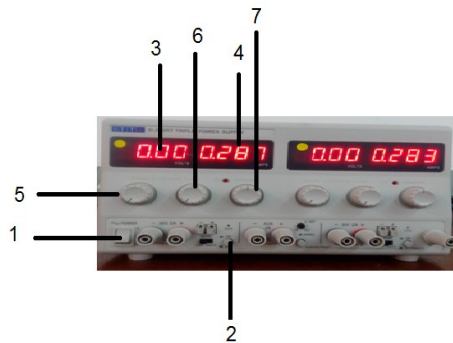

Figure 1: Digital Dual DC Power Supply
A Dual DC power supply figure 1 can be used (1) as a voltage Source, and (2) as a current Source provided a prior setting of the unit. The DC power supply provided in the laboratory is set to operate as voltage source, and the controls are: